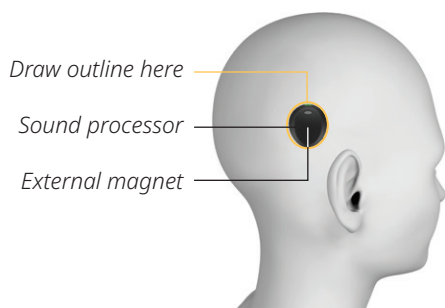

Fig.7: Location of the sound processor with external magnet
2. Use a marker to draw an outline of the sound processor on the patient's head. Refer to *Fig.7* on page 25.